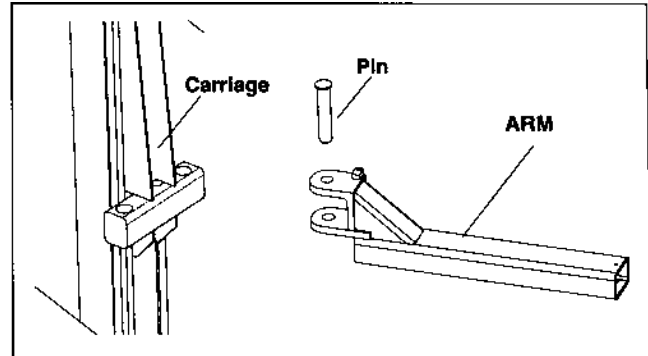

Figure 16 - Lift Arm Installation
1. Place the lift arms on the carriages. Insert a carriage pin through each lift arm and carriage (Figure 16).